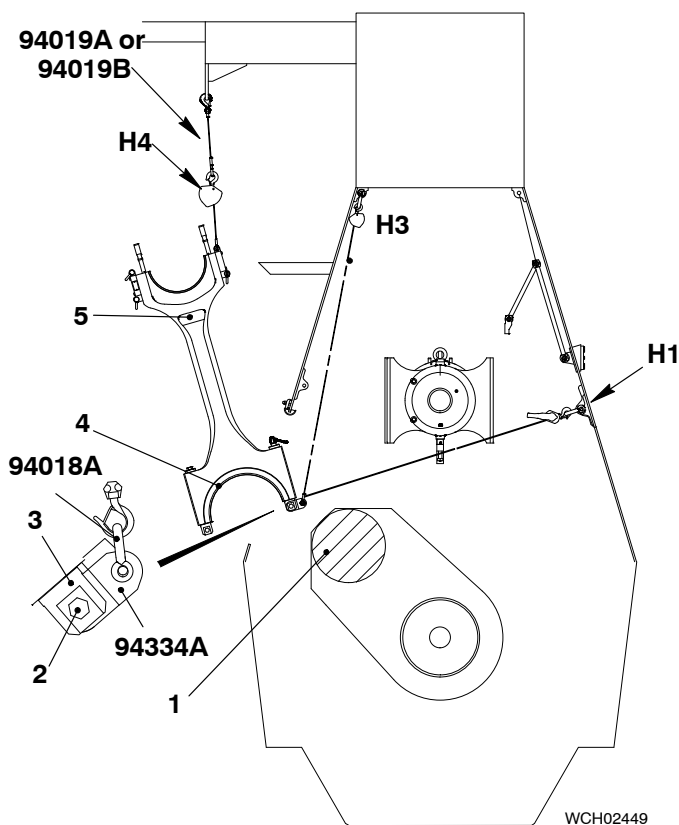

Fig. 9
- 1) Clean the bearing shell (4, Fig. 9) and the crank pin (1).
- 2) Put oil on the bearing shell (4) and the crank pin (1).
- 4) Attach the manual ratchet (H1) to the shackle (94018A) on the top rod (3).